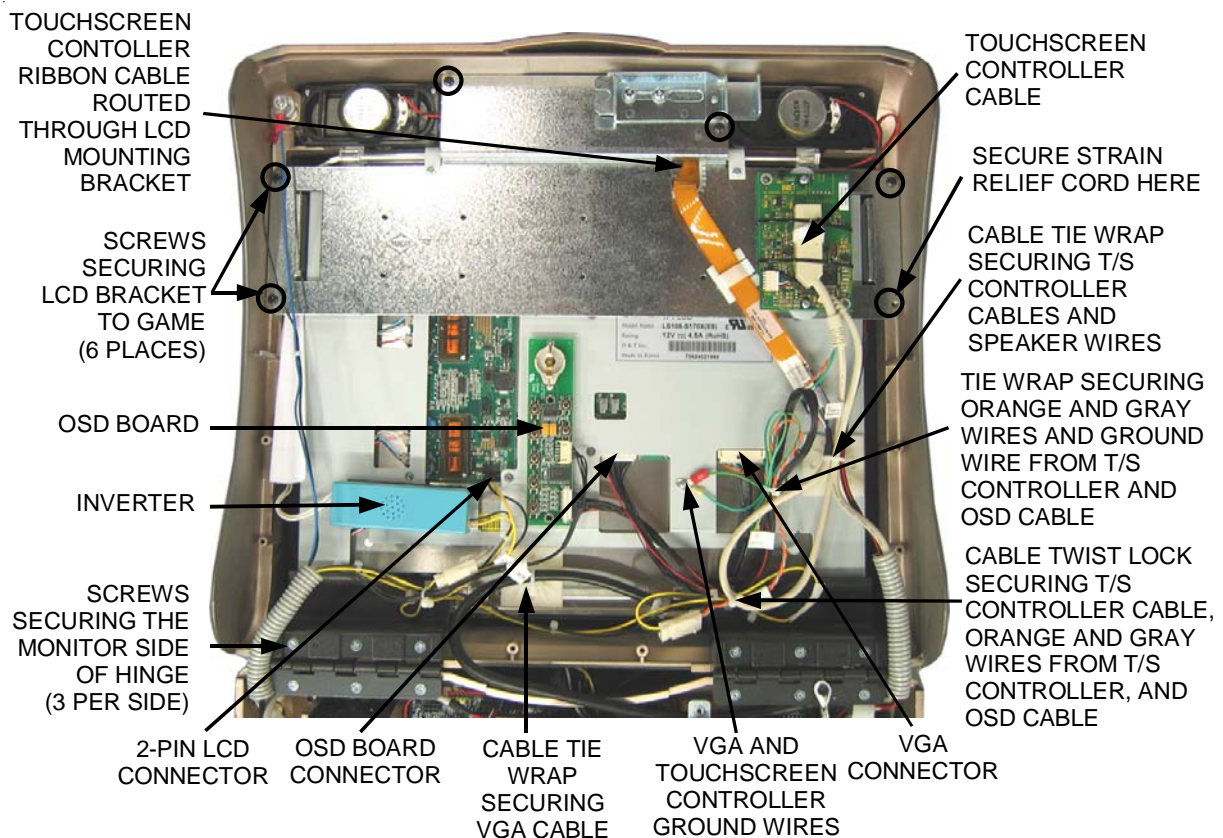

FIGURE 4 – FORESEASON MONITOR IN 17" ION COUNTERTOP GAME
3. *Very carefully* cut the tie wraps securing the touchscreen controller cable to the touchscreen controller. Then, disconnect the cable from the touchscreen controller. See Figure 4.
5. Cut the tie wrap securing the touchscreen controller cables and speaker wires on the back of the monitor (see Figure 4).
6. Cut the tie wrap securing the orange and gray wires and ground wire from the touchscreen controller and the OSD cable. See Figure 4.
7. Remove the touchscreen controller cable, the orange and gray wires (from the touchscreen controller) and the OSD board cable from the cable twist lock. See Figure 4.
9. Disconnect the 2-pin LCD connector, the OSD connector and the VGA connector from the back of the monitor. See Figure 4.
10. Remove the screw and washer securing the VGA and touchscreen controller ground wires to the back of the monitor. See Figure 4.
11. Remove the OSD board and inverter from the Velcro attached to the back side of the monitor and set them aside. See Figure 4.
12. Place something in front of the game to brace the bezel once the strain relief cord is undone, then remove the screw and washer securing the strain relief cord. See Figure 4.
13. Remove the remaining 5 screws fastening the LCD mounting bracket to the game. See Figure 4.
21. Route the touchscreen controller cable through the hole in the LCD mounting bracket (Figure 4).
22. Fasten the strain relief cord under the LCD mounting bracket screw designated in Figure 4. Replace the remaining 5 screws securing the mounting bracket to the bezel. See Figure 4.
23. Tighten the 3 screws per hinge that were loosened during removal of your old monitor. See Figure 4. Make sure the spacers beneath the hinges are aligned correctly as you tighten the screws.
25. Install the 2 existing nylon spacers on the standoffs where the touchscreen controller will be mounted (see Figure 4). If your touchscreen controller did not have nylon spacers, install the 2 provided spacers. Then, secure the touchscreen controller to the standoffs on the LCD mounting bracket using the existing screws.
26. Secure the ribbon cable from the touchscreen controller in the cable clamp on the LCD mounting bracket. See Figure 4.
28. Connect the 2-pin LCD connector to the back of the monitor. See Figure 4.
29. Connect the OSD connector to the monitor. See Figure 4.
30. Connect the VGA monitor connector to the monitor. See Figure 4.
31. Replace the screw and washer securing the VGA and touchscreen controller ground wires to the back of the monitor. See Figure 4.